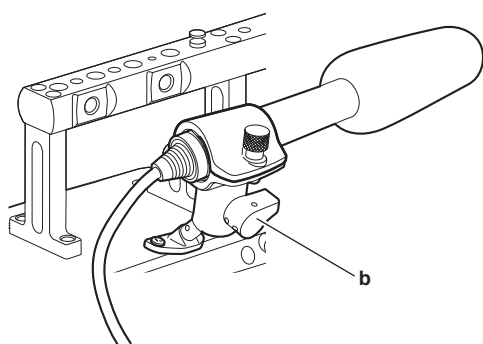

Fig. 3
- 3** Loosen the lock lever (b), adjust the angle of the microphone, and tighten the lock lever. (Fig. 3)